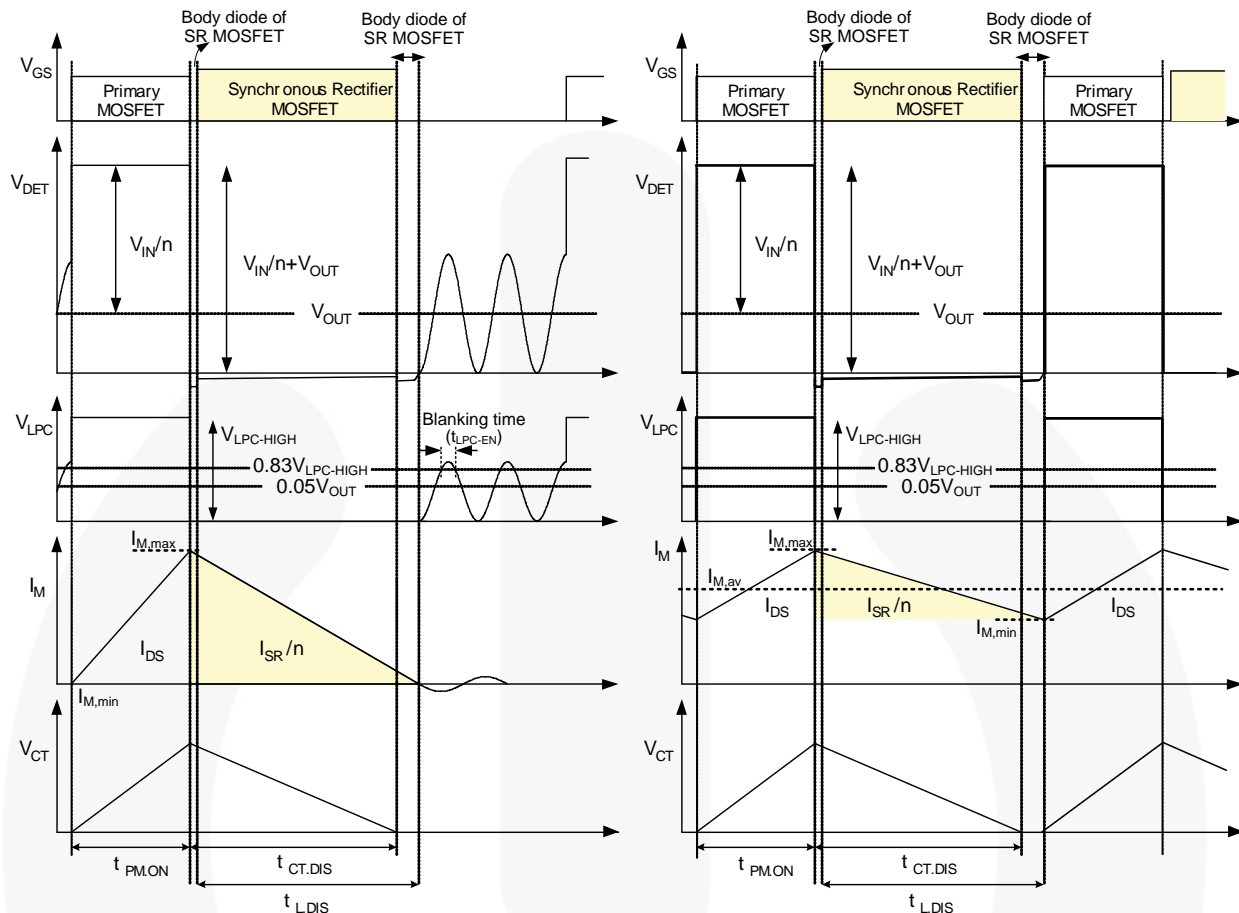
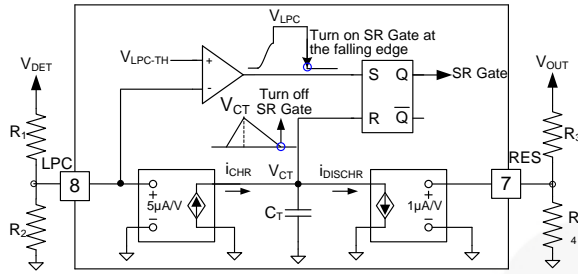

Figure 18. Typical Waveforms of Linear-Predict Timing Control in CCM and DCM/QR Flyback
Figure 19. Simplified Linear-Predict Block
The SR MOSFET turn-off timing is determined by linear-predict timing control and the operation principle is based on the volt-second balance theorem. The volt-second balance theorem states that the inductor average voltage is zero during a switching period in steady state, so the charge voltage and charge time product is equal to the discharge voltage and discharge time product. In flyback converters, the charge voltage on the magnetizing inductor is input voltage (V_{IN}), while the discharge voltage is nV_{OUT} , as the typical waveforms show in Figure 18. The following equation can be drawn:
FAN6204 uses the LPC and RES pins with two sets of voltage dividers to sense DET voltage (V_{DET}) and output voltage (V_{OUT}), respectively; so V_{IN}/n , $t_{PM,ON}$, and V_{OUT} can be obtained. As a result, $t_{L,DIS}$, which is the on-time of SR MOSFET, can be predicted by Equation (1). As shown in Figure 18, the SR MOSFET is turned on when the SR MOSFET body diode starts conducting and DET voltage drops to zero. The SR MOSFET is turned off by linear-predict timing control.
The linear-predict timing-control circuit generates a replica (V_{CT}) of magnetizing current of flyback transformer using internal timing capacitor (C_T), as shown in Figure 19. Using the internal capacitor voltage, the inductor discharge time ($t_{L,DIS}$) can be detected indirectly, as shown in Figure 18. When C_T is discharged to zero, the SR controller turns off the SR MOSFET.
Referring to Figure 18; when LPC voltage is higher than V_{LPC-EN} over a blanking time (t_{LPC-EN}) and lower than $V_{LPC-TH-HIGH}$ ($0.05 V_{OUT}$), then SR MOSFET can be triggered. Therefore, V_{LPC-EN} must be larger than $V_{LPC-TH-HIGH}$ or the SR MOSFET cannot be turned on. When designing the voltage divider of LPC, R_1 and R_2 should be considered as:
The typical waveforms of CCM operation in steady state are shown as Figure 18. When the primary-side MOSFET is turned on, the energy is stored in L_m . During the on-time of the primary-side MOSFET ($t_{PM,ON}$), the magnetizing current (I_M) increases linearly from $I_{M,min}$ to $I_{M,max}$. Meanwhile, internal timing capacitor (C_T) is charged by current source ($i_{CHR} - i_{DISCH}$) proportional to V_{IN} , so V_{CT} also increases linearly.
In DCM / QR operation, when primary-side MOSFET is turned off, the energy stored in L_m is fully released to the output at the turn-off timing of primary-side MOSFET. Therefore, the DET voltage continues resonating until the primary-side MOSFET is turned on, as depicted in Figure 18. While DET voltage is resonating, DET voltage and LPC voltage drop to zero by resonance, which can trigger the turn-on of the SR MOSFET. To prevent fault triggering of the SR MOSFET in DCM operation, blanking time is introduced to LPC voltage. The SR MOSFET is not turned on even when LPC voltage drops below $0.05 V_{OUT}$ unless LPC voltage stays above $0.83 V_{LPC-HIGH}$ longer than the blanking time (t_{LPC-EN}). The turn-on timing of the SR MOSFET is inhibited by gate inhibit time ($t_{INHIBIT}$), once the SR MOSFET turns off, to prevent fault triggering.